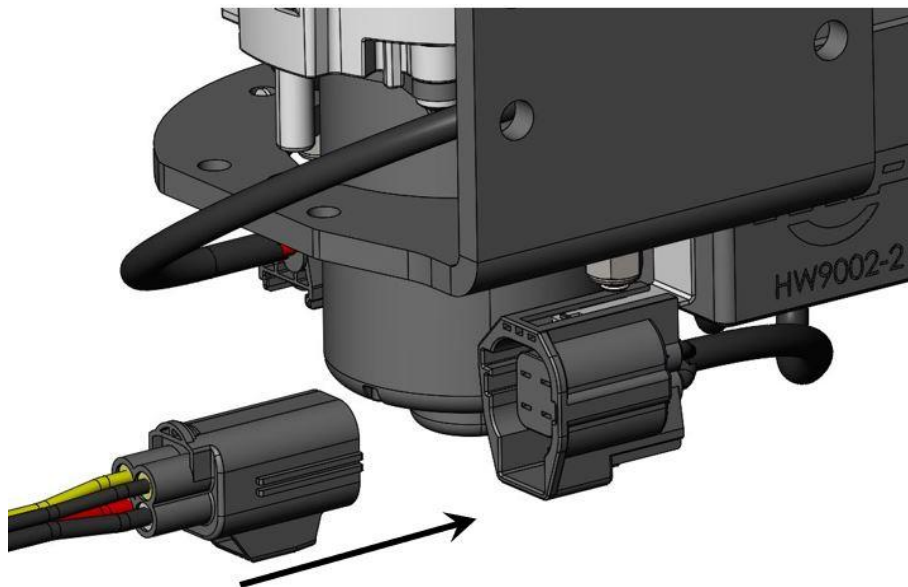

Figure 1 – Installing the 4-Pin Connector
1. Connect the wiring harness to the previously mounted pump assembly. Insert the male 4-pin connector from the wiring harness into the female 4-pin connector on the vacuum pump assembly. Make sure that you hear and feel a "click" when doing so, this will let you know the connectors are fully mated. Also, the connector can only be installed one way. Refer to Figure 1 below for reference.